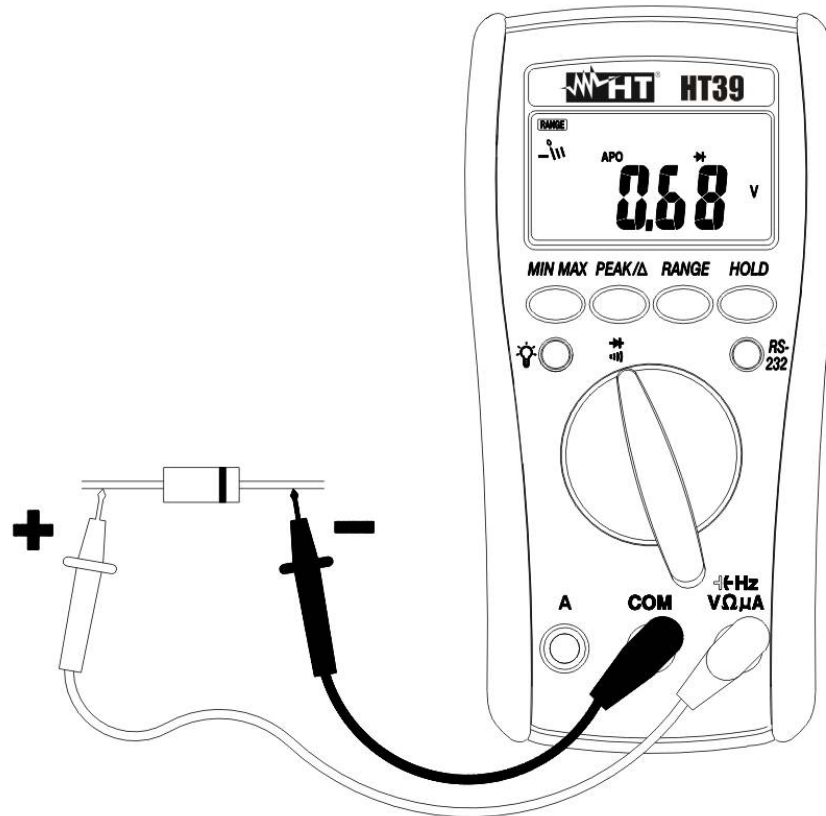

Fig. 9: Diode test
2. Insert the test leads into the jacks, the red plug into \rightarrow HzVΩμA jack and the black plug into **COM** jack (Fig. 9).